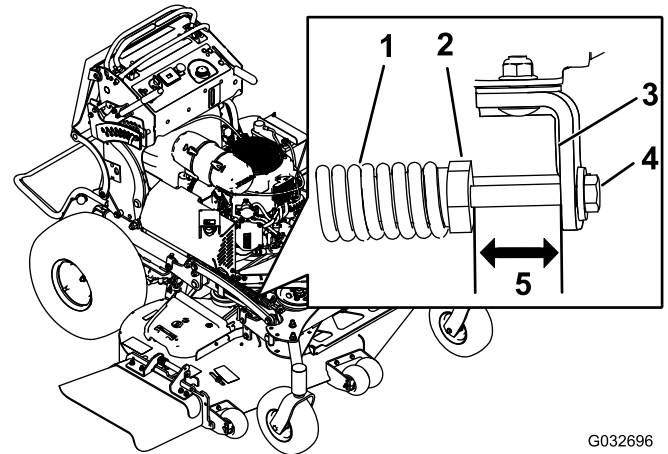

Figure 96
2. Check the distance between the spring nut and the rear side of the welded mount bracket (Figure 96).
3. Ensure that the length is between 47 to 50 mm (1.8 to 2 inches) as shown in Figure 96.
4. If needed, adjust the distance by adjusting the bolt on the front of the mount bracket (Figure 96).